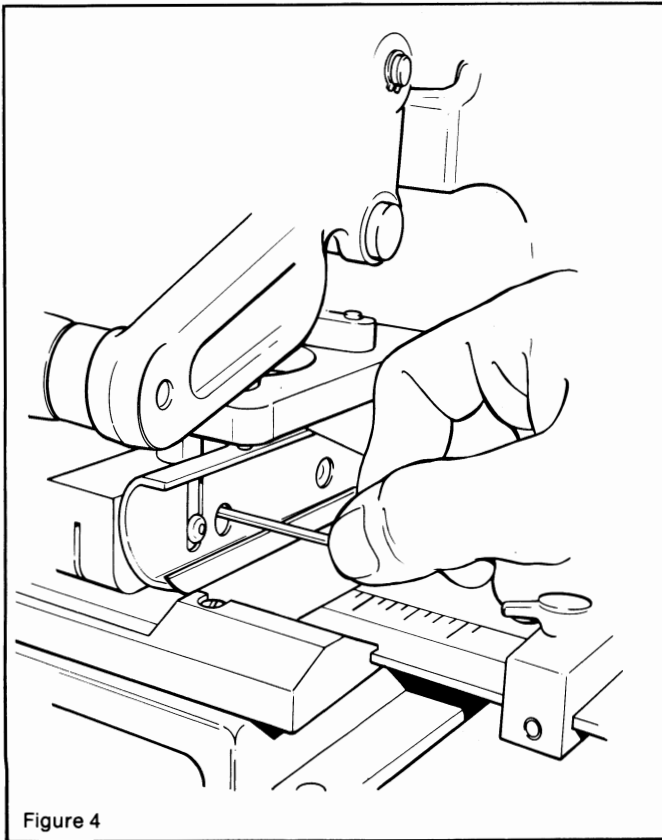

Figure 4
2. With a $3/32''$ allen wrench, loosen the two set screws (figure 4).